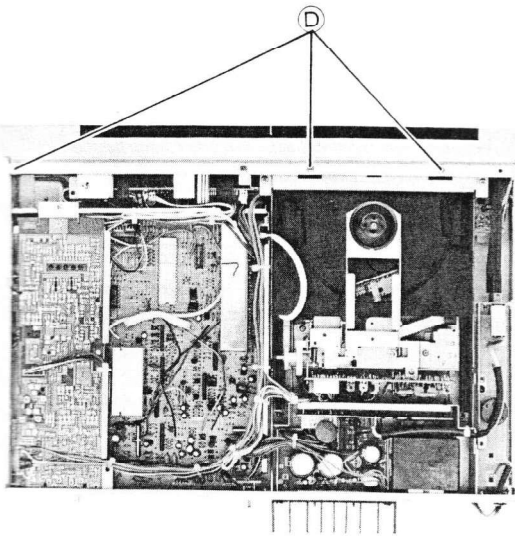

Figure 7
7. Remove three screws (D) ($3\phi \times 6\text{mm}$), and three screws (E) ($3\phi \times 8\text{mm}$), and the front panel can be removed from unit. (Figure 7 and 8)